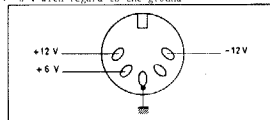

Figure VII-3 - Supply DC voltage measurement
a) Make supply frequency vary from 45 Hz to 400 Hz successively on both mains voltages 115 V - 230 V. Measure the following voltages on the "ALIM" connector on the rear panel of the mainframe (see figure VII-3) :